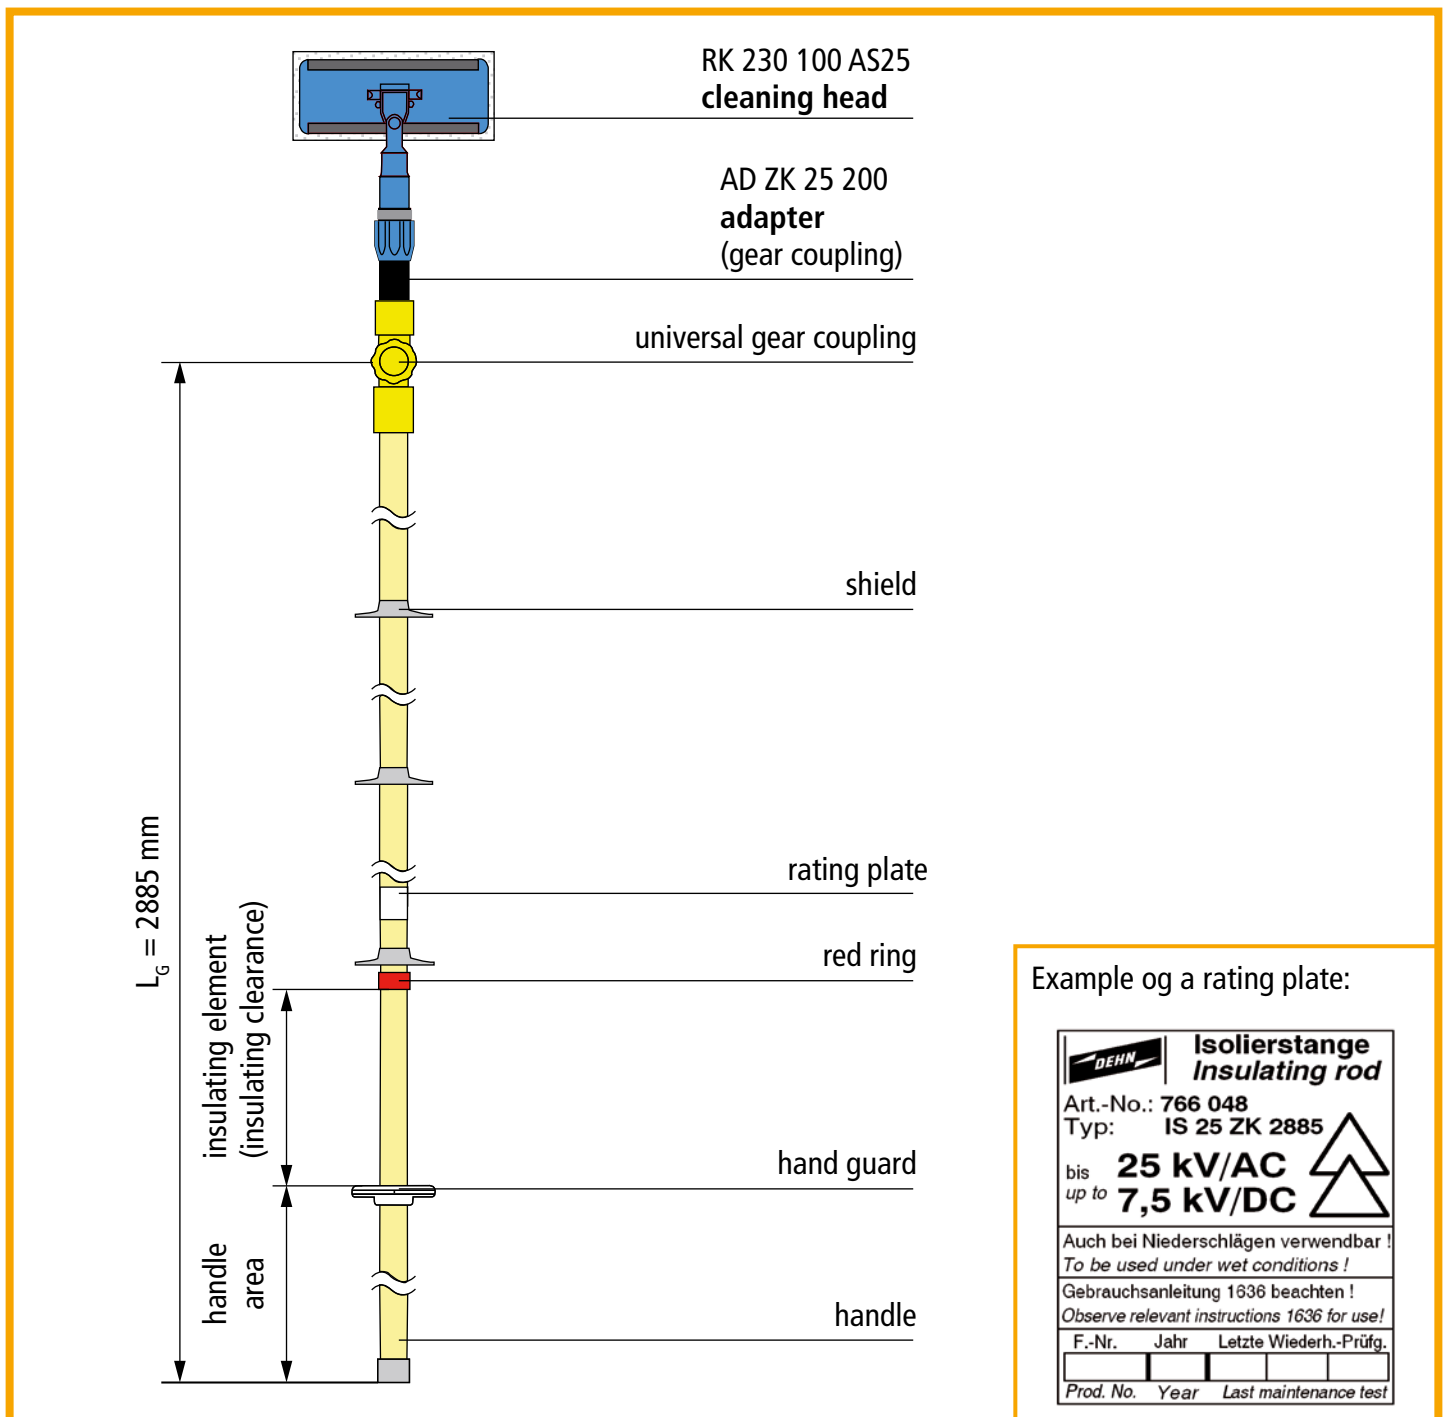

Figure 4 Operation
- 3.1 Before assembly, check the **IS 25 ZK... insulating stick**, **AD ZK 25 200 adapter** and **RK 230 100 AS25 cleaning head** for signs of mechanical damage (tight fit of the shield, red ring and hand guard, cracks and deep scratches in the insulating clearance and extension, ...) (see Fig. 4, page 8). Faulty single parts must be removed from service.
- 3.11 Only contact the handle of the **IS 25 ZK... insulating stick** (see Fig. 4, page 8).
- ⇒ The **hand guard** and the **red ring** limit the **insulating element (insulating clearance)** (see Fig. 4).